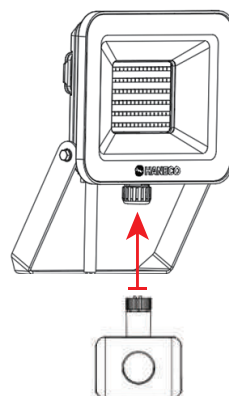

Figure 1
- Step 2. Connecting the load to sensor as per the diagram on Figure 1.